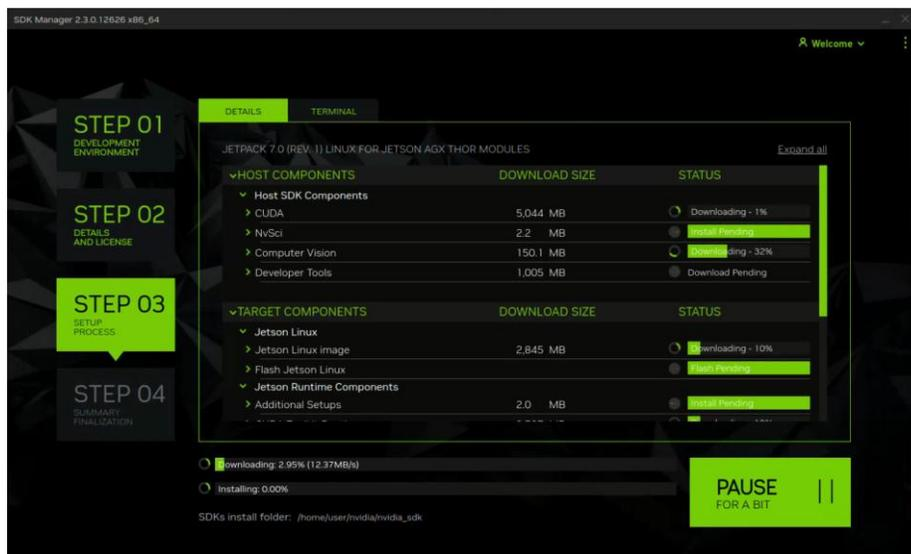

Figure 6.20. STEP 03 – Setup Process
10. In STEP 03, the **SDK Manager** will prompt for a sudo password. Enter the password and click **OK**. The software download and installation process begins. The progress is shown in Figure 6.20.